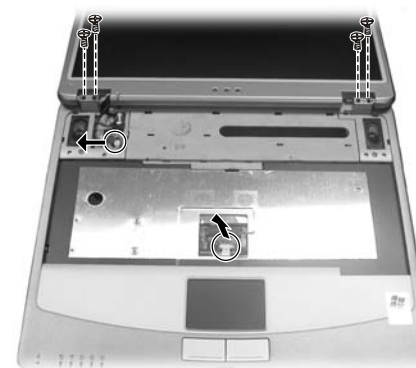

Figure 2-30 Loosen the screws and disconnect the cable
6. Remove the four screws of the hinges. Then disconnect the speaker's cord and touch pad cable. (Figure 2-30)